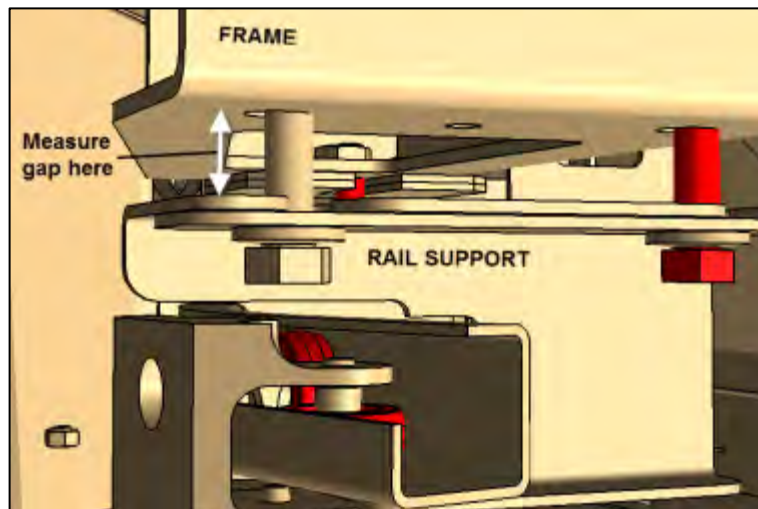

Figure 54
76. Measure the gap between the rail support and frame. (Figure 54)